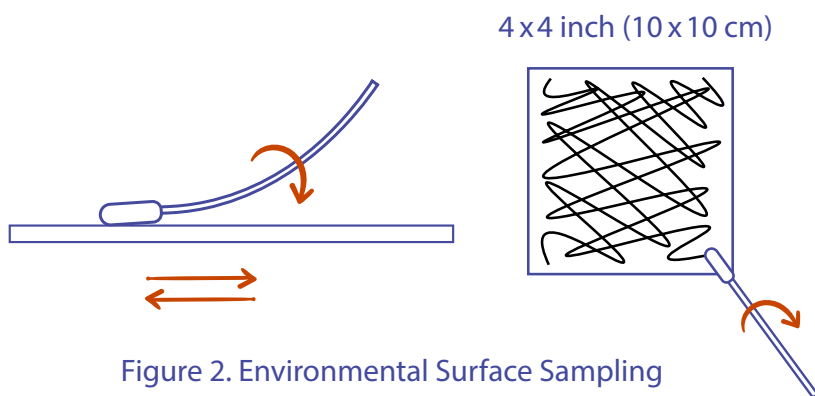

Figure 2. Environmental Surface Sampling
8.1.2. Collect a surface sample by swabbing a 4 x 4 in (or 10 x 10 cm) area using a rolling crosshatch technique shown in **Figure 2**. Ensure that all sides of the swab bulb come into contact with the surface.